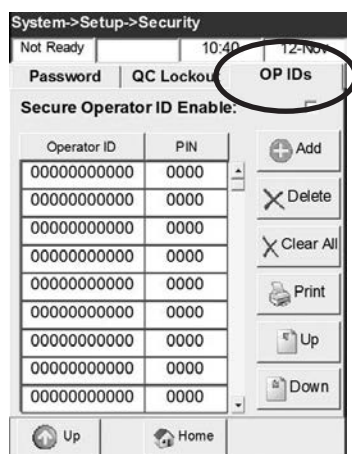

Fig. 3-26 Select OP IDs
- Select **<OP IDs>** in the **<Security>** menu (Fig. 3-26).